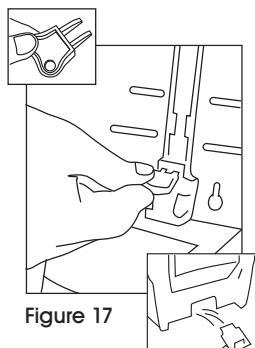

Figure 17
- From the inside of the dispenser, insert the key into the back of the dispenser in the key slot and push until the latch piece is ejected from the bottom of the dispenser. (See Figure 17)